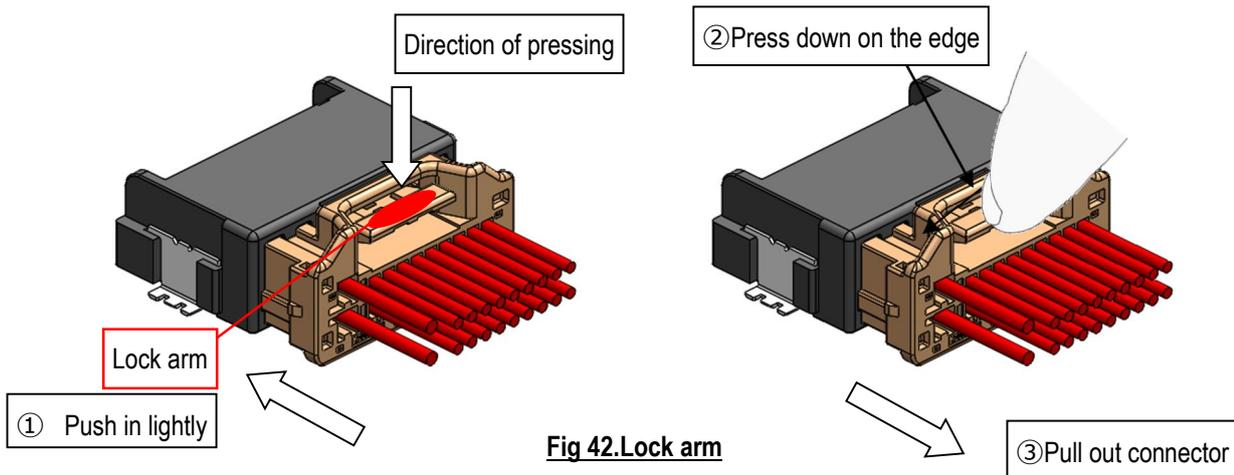

Fig 42. Lock arm
- ① Hold the female connector and push it in lightly.
- ② While holding the female connector in, press down fully on the end of the arm (see Fig. 42).
- ③ Keep pressing the lock down, and pull out the female connector.